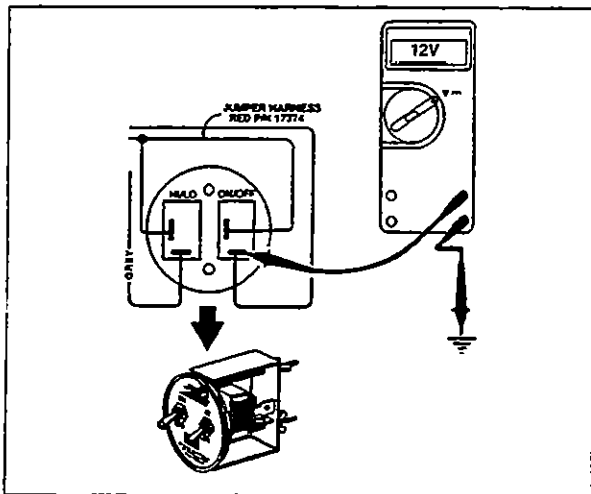

Fig. 1.1.11
**Correction:** Connect VOM positive (+) probe to common (lower) terminal of on/off switch and negative (-) probe to ground (Fig. 1.1.11). With ignition switch on, VOM should read +12 volts. If not, check circuit breaker or fuse and wiring to switch and repair/replace as needed.